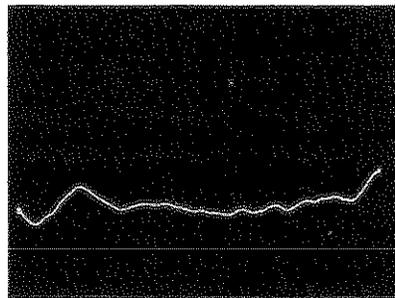

Figure 4-9. Typical Display with Display Blanking
- j. Oscilloscope display should be similar to typical display shown in Figure 4-9.